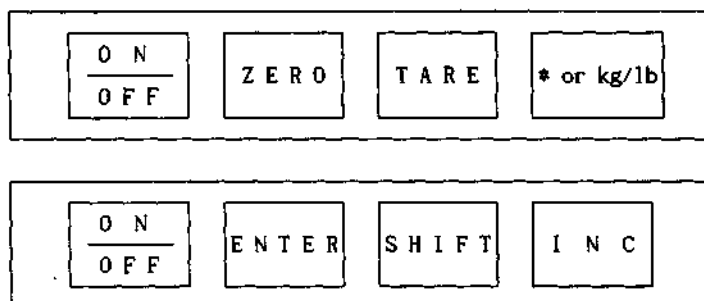

Fig. 1
A.1.1 In this mode, the functions of three key are converted as below Fig. 1.